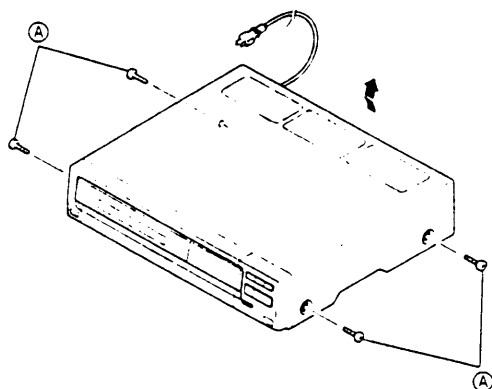

Fig. 1-1-1 Top cover
1. Refer to Fig. 1-1-1. Set for the Eject (Stop) mode and disconnect from AC power.
2. Take out 4 screws (A) and remove the top cover in the rearward direction.